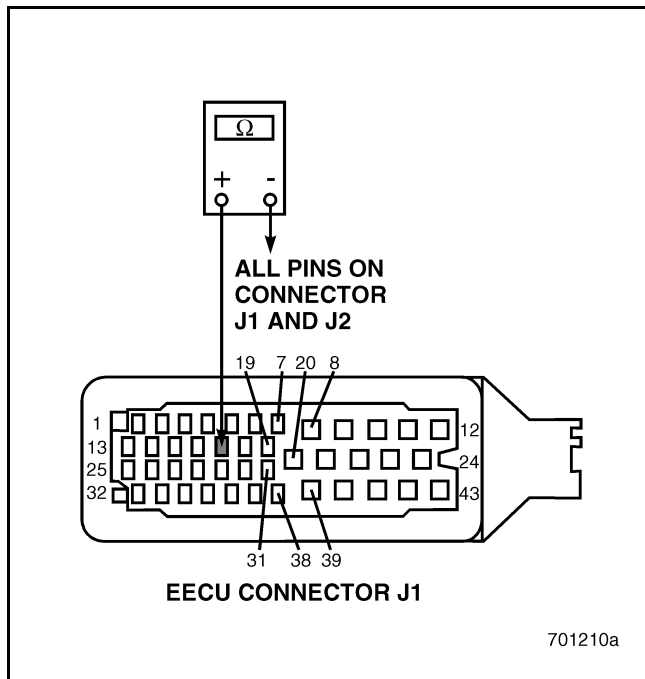

Figure 148
4. Check for continuity between EECU harness connector J1 pin 17 and all other pins on EECU connectors J1 and J2 (see Figure 148).